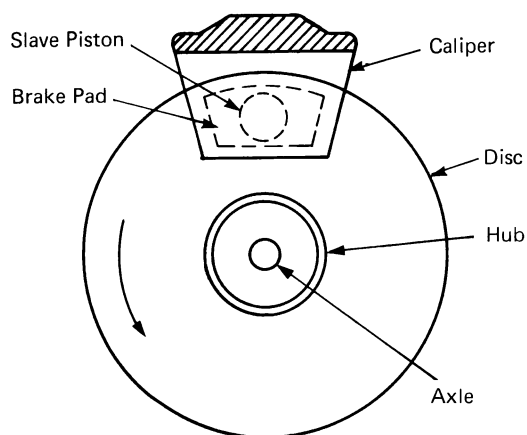

Fig. 6-8 Disc brake, side view
**Disc Brakes.** Disc brake systems employ a round, solid steel plate or disc attached to the rotating wheel. Two fiber brake pads or “pucks” are located in a caliper assembly that is attached firmly to the fork or swing arm. When the brakes are applied these pads are squeezed together against both sides of the disc, creating the friction and heat needed to stop the bike. The disc brake is superior to the drum brake because it is fade resistant, smoother operating, self-cleaning, and easier to service (Figs. 6-8, 6-9).